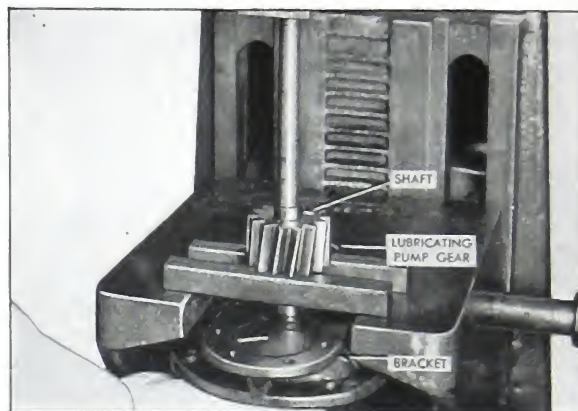

Fig. 7-3. Pressing lubricating oil pump gear from shaft
6. Put the bracket and gear in an arbor press, gear end up, with the gear resting on parallels and press the shaft from the gear. (Fig. 7-3).